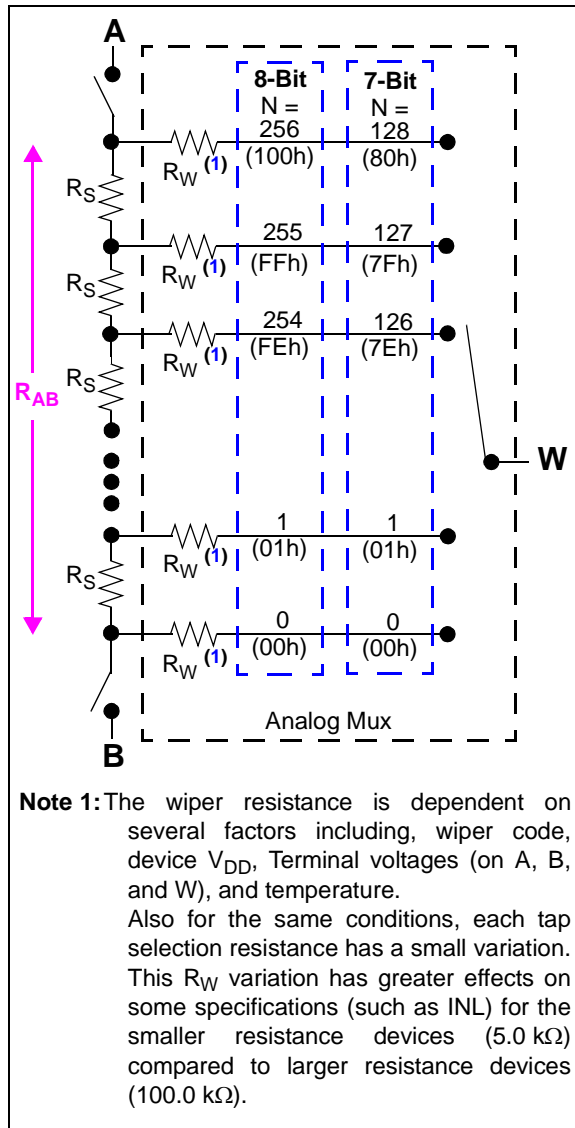

FIGURE 5-1: Resistor Block Diagram.
The Resistor Network has either 7-bit or 8-bit resolution. Each Resistor Network allows zero scale to full-scale connections. Figure 5-1 shows a block diagram for the resistive network of a device.
The resistor ladder is a series of equal value resistors (RS) with a connection point (tap) between the two resistors. The total number of resistors in the series (ladder) determines the RAB resistance (see Figure 5-1). The end points of the resistor ladder are connected to analog switches, which are connected to the device Terminal A and Terminal B pins. The RAB (and RS) resistance has small variations over voltage and temperature.